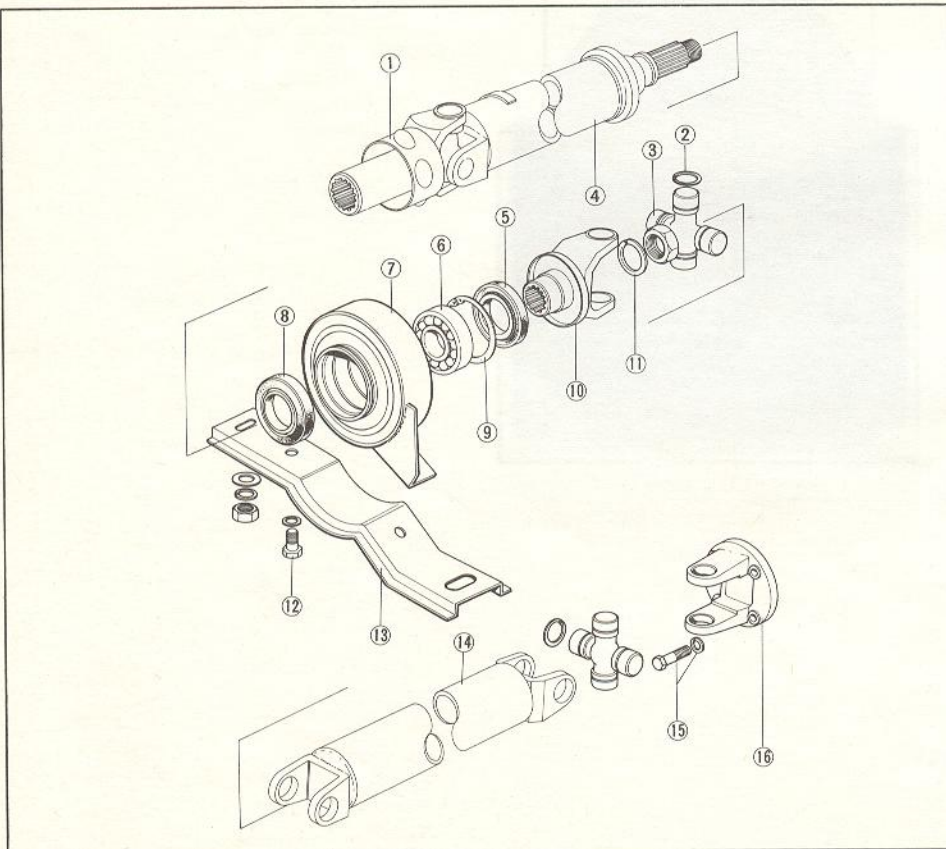

Fig. 8-3 Propeller shaft components
- Fig. 8-3 Propeller shaft components